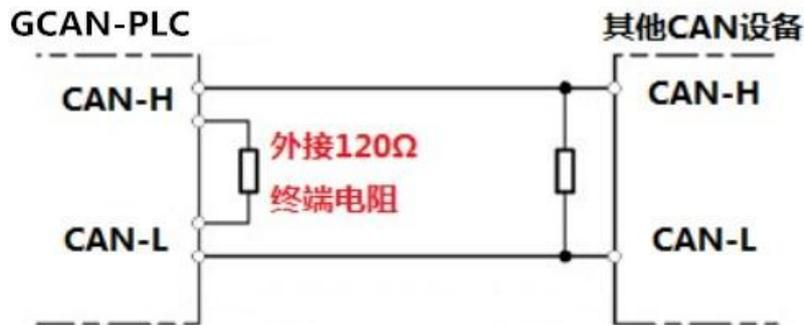

Figure 3.2 GCAN-GT-412 connected with other CAN node devices
In order to enhance the reliability of CAN communication and eliminate CAN bus terminal signal reflection interference, the two farthest endpoints of the CAN bus network usually need to add terminal matching resistors, as shown in Figure 3.2. The value of the termination matching resistance is determined by the characteristic impedance of the transmission cable. For example, the characteristic impedance of the twisted pair is 120Ω, then the two end points on the bus should also integrate 120Ω termination resistance. If other nodes on the network use different transceivers, the termination resistance must be calculated separately.
**Please note: GCAN-GT-412's CAN bus does not integrate a 120Ω termination resistor. If the number of nodes is greater than 2, the intermediate node does not need to install a 120Ω termination resistor. When needed, connect the two ends of the resistor to CAN\_H and CAN\_L, as shown in Figure 3.2.**